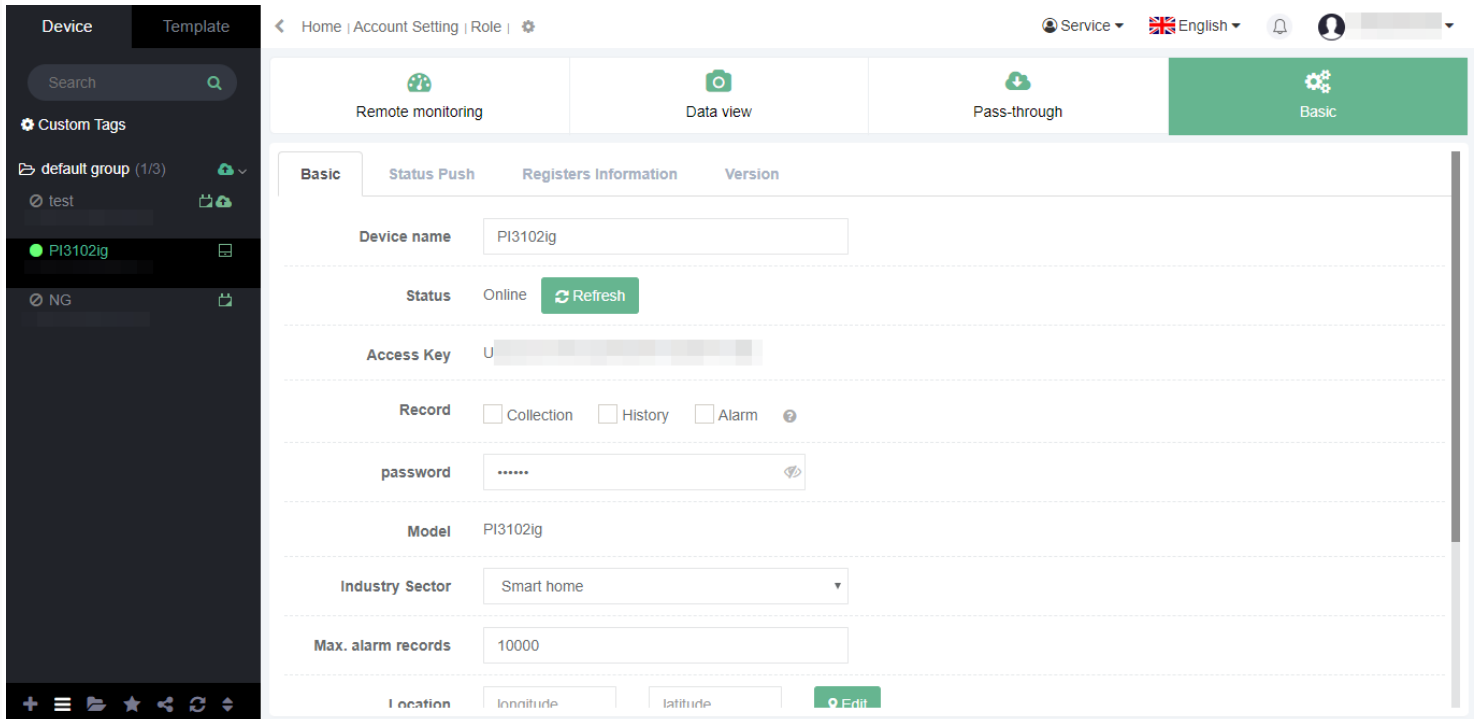

Figure 10
In the "Basic" sub-page of Basic, HMI name, record reserved selection, password, location and remarks, etc. As shown in Figure 10:
- V-NET → specified HMI → Basic → "password" → modify and save, as shown in Figure 10.